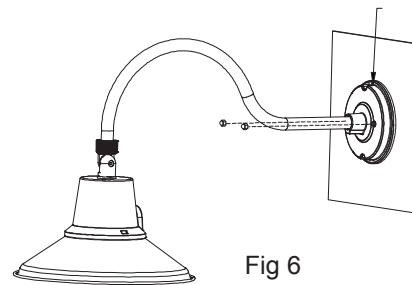

Fig 6
6. Hide the connected wires in the junction box, align the lamp body with the screws, and tighten the nuts. (Fig 6)